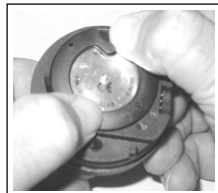
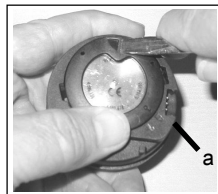

Fig. 69 -ENGAGING the RETAINING RING TABS
Fig. 70 -TIGHTENING the RETAINING RING
- Using your fingers, turn the Ring counter clockwise 5 degrees until the tabs engage (Fig. 69), then tighten it 5 more degrees by turning it counter clockwise using the Battery Hatch Tool (Fig. 70).